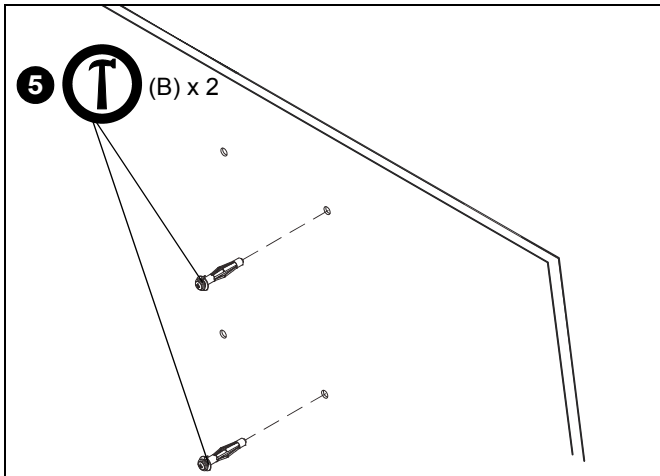
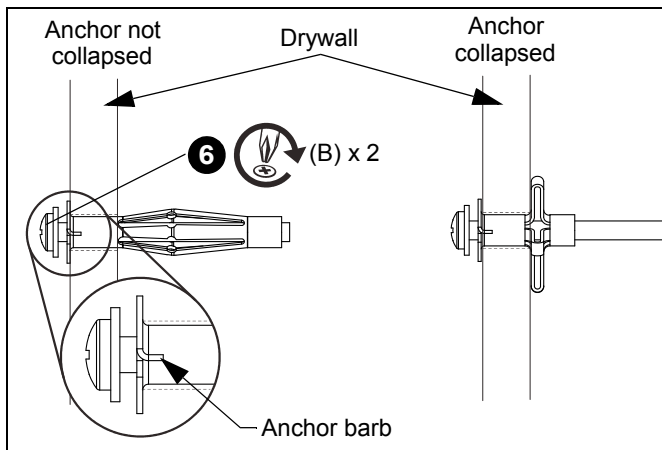

Figure 3
Figure 4
5. Gently tap anchor (B) into anchor hole. Anchor barbs should be fully engaged in drywall. (See Figure 3) and (See Figure 4)
6. Using Phillips screwdriver, tighten anchor screws until anchors have fully collapsed against back side of drywall. (See Figure 4)